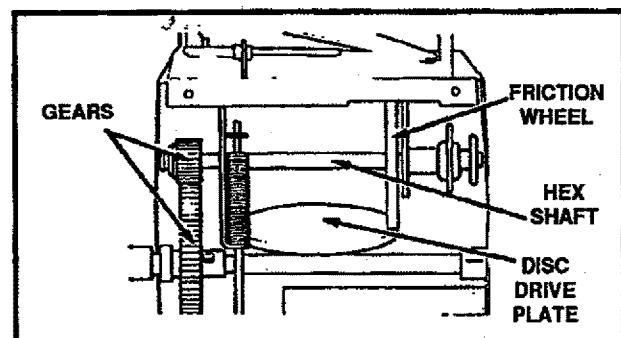

FIG. 19
- Hex Shaft and Gears - Hex shaft and gears require no lubrication. All bearings and bushings are lifetime lubricated and require no maintenance (See Fig. 19).
NOTE: For storage, the hex shaft and gears should be wiped with 10W-30 motor oil to prevent rusting (See Fig. 19).